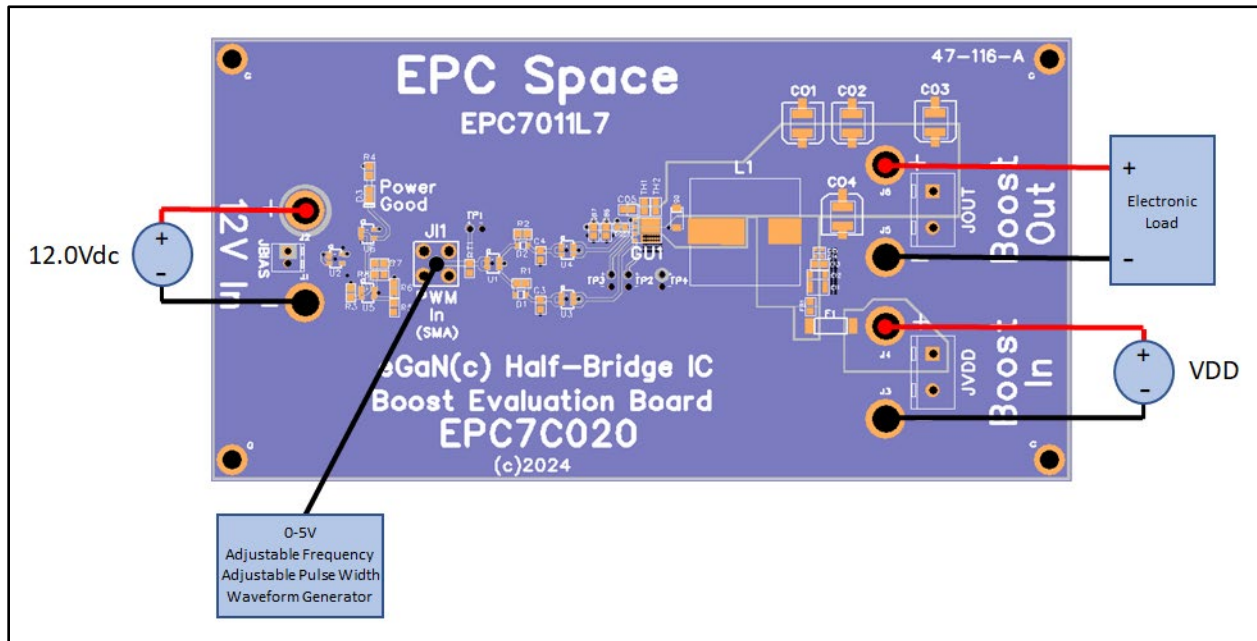

Figure 7. EPC7C020 Evaluation Board Test Equipment Connections: AC Switching Operation.
Figure 7 shows the recommended connection to/from the Evaluation Board for switching operation.
With the evaluation board connected to the test equipment as shown in Figure 7, the switching node (SN) waveform may be monitored using the following test sequence: